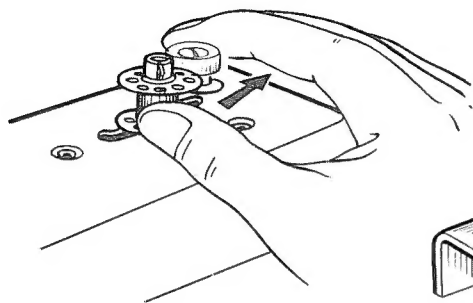

Fig. 1
- 2) Place a bobbin on the bobbin winder spindle, turn the bobbin until the notch in the bobbin meets the spring on the spindle, and push the bobbin down. Then push the bobbin winding spindle so that the bobbin presser fits into the bobbin. (Fig. 1)